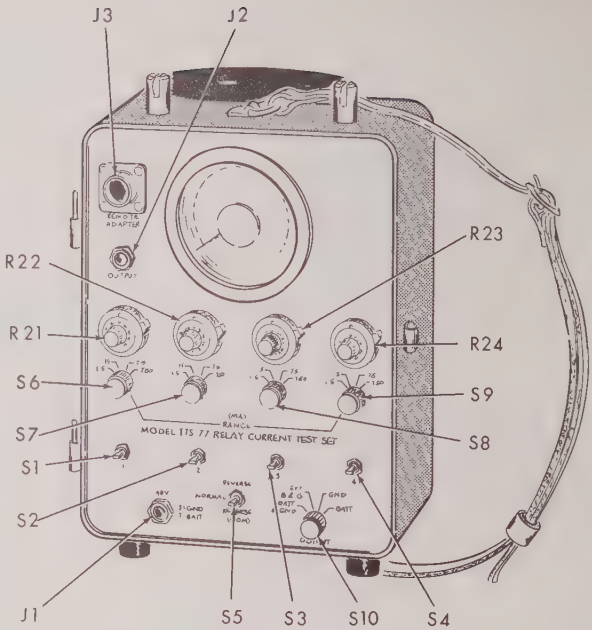

Figure 3— 1. Controls,Indicators and Connectors.
3.2 Table 3—1 lists the function of the controls, indicators and connectors shown on Figure 3—1, with